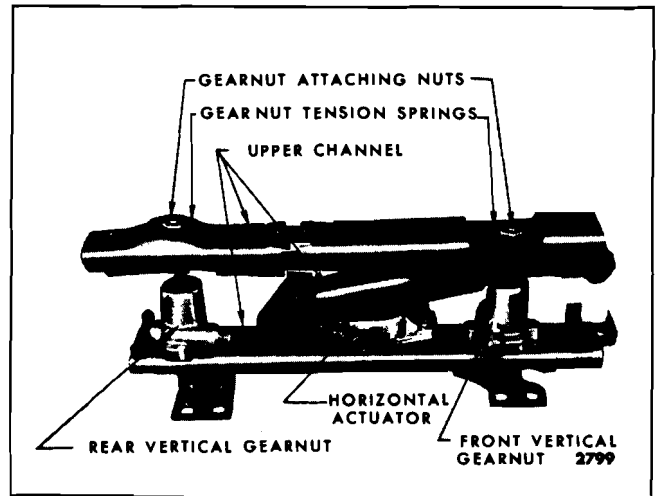
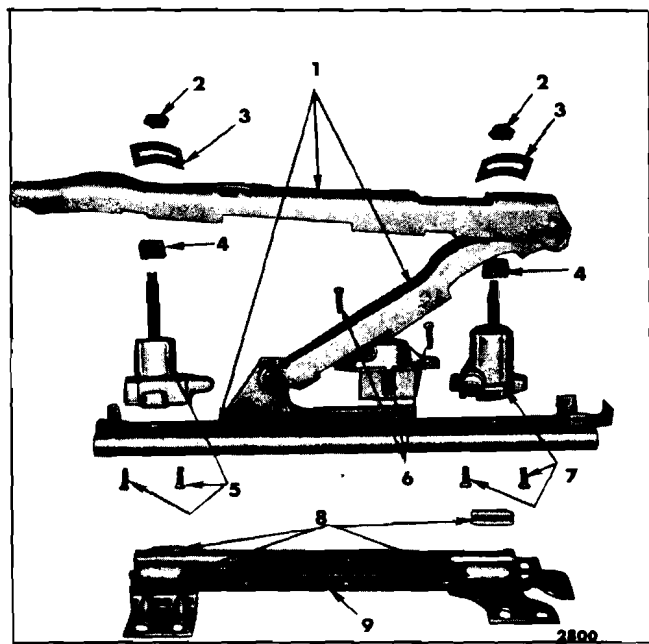

Fig. 15-18—Six-Way Seat Adjuster - "B, C & E" Styles
Fig. 15-19—Six-Way Seat Adjuster Components - "B, C & E" Styles
4. At top of adjuster remove front and rear vertical gearnut attaching nuts and tension springs (Fig. 15-18).
5. Lift front of adjuster upper channel upward; then remove screws securing horizontal actuator to adjuster upper channel assembly (Fig. 15-18) and remove actuator from adjuster.
5. At top of adjuster, remove both vertical gear-nut attaching nuts and tension springs (Fig. 15-19).
6. Lay adjuster on its side and remove front vertical gearnut attaching screws (Fig. 15-19); then, remove gearnut from adjuster.
7. If front vertical gearnut is being replaced with a new part, transfer gearnut shoulder nut and tension spring to new gearnut assembly (Fig. 15-19).
4. At top of adjuster, remove both vertical gear-nut attaching nuts and tension springs (Fig. 15-18). Lift front of adjuster upper channel upward; then, remove horizontal actuator attaching screws (Fig. 15-19) and remove horizontal actuator from adjuster.